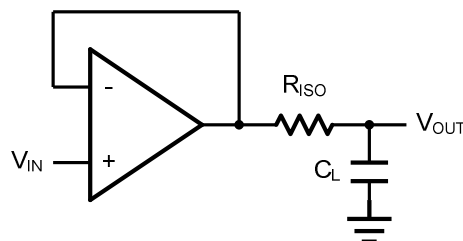
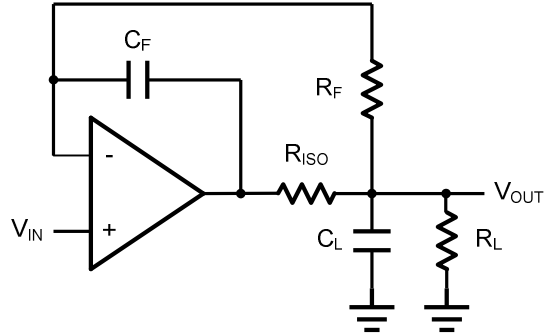

Figure 2. Indirectly Driving a Capacitive Load Using Isolation Resistor
Figure 3. Indirectly Driving a Capacitive Load with DC Accuracy
The HGV321 family is optimized for bandwidth and speed, not for driving capacitive loads. Output capacitance will create a pole in the amplifier's feedback path, leading to excessive peaking and potential oscillation. If dealing with load capacitance is a requirement of the application, the two strategies to consider are (1) using a small resistor in series with the amplifier's output and the load capacitance and (2) reducing the bandwidth of the amplifier's feedback loop by increasing the overall noise gain. Figure 2. shows a unity gain follower using the series resistor strategy. The resistor isolates the output from the capacitance and, more importantly, creates a zero in the feedback path that compensates for the pole created by the output capacitance.
The circuit in Figure 3 is an improvement to the one in Figure 2. R_{F} provides the DC accuracy by feed-forward the V_{IN} to R_{L} . C_{F}